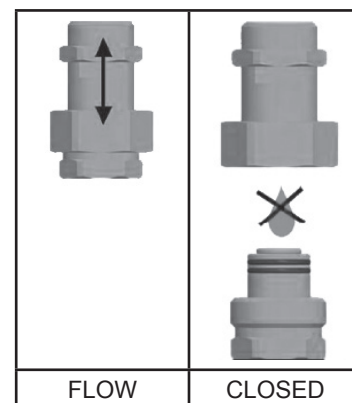

Figure 25.
9. Unscrew the tank connector (Figure 25) to separate the two halves. The top half should be pushed onto the mounting bracket and the lock ring tightened. The bottom half should be attached to the 3/4" threads on the expansion tank.
NOTE: The tank connector allows you to isolate the expansion tank from the solar circuit. See Figure 25. When the nut is unscrewed the valves in each half of the tank connector are automatically closed tightly by the integrated springs. Each side remains closed until the two halves are screwed back together and the valves are forced open. Do not forget to insert the seal.